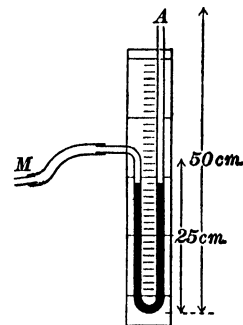

FIG 13
**II Measurement of lung-pressure** Arrange a pressure gauge, or manometer, as in Fig. 13.